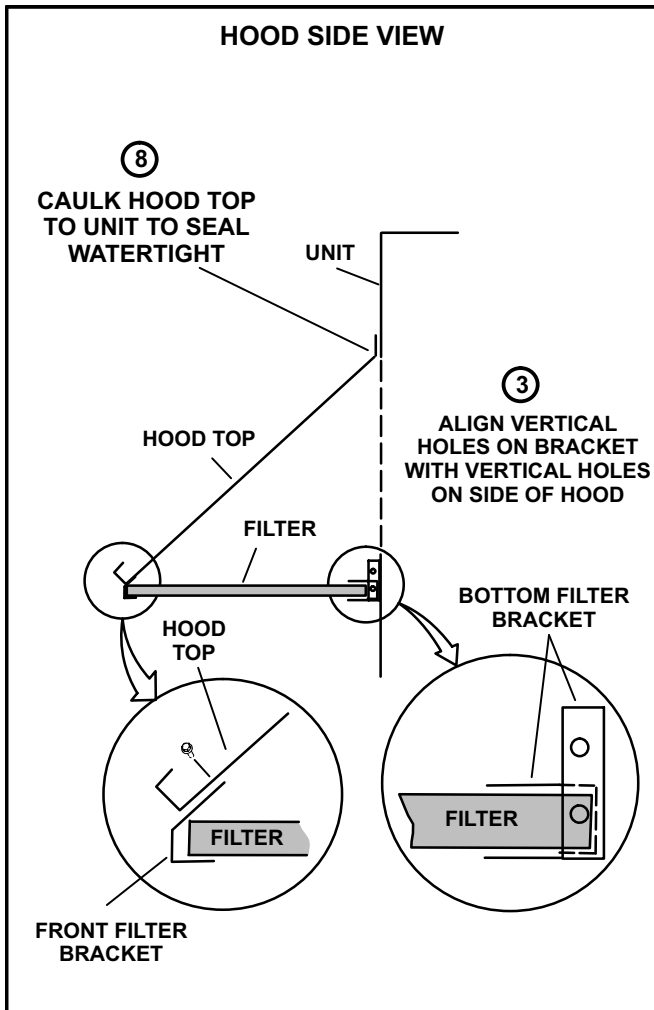

FIGURE 10
- 8- Install front filter bracket on the left side of the hood. Secure with three screws. See figure 10 and 11.